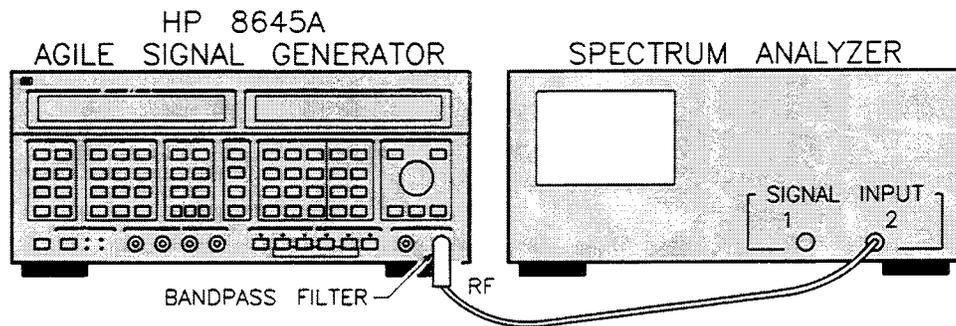

Figure 4-12. Equipment Setup for the Sweep Exercise.
1. Connect the HP 8645A to the Bandpass Filter and the Spectrum Analyzer as shown in figure 4-12. Turn on the equipment and make the following adjustments to the Spectrum Analyzer: